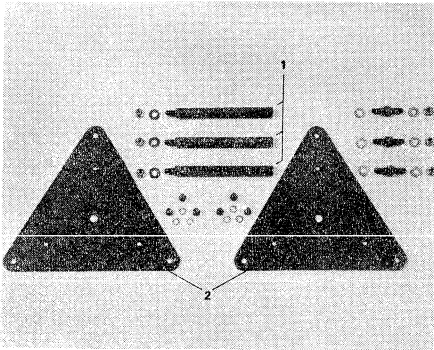
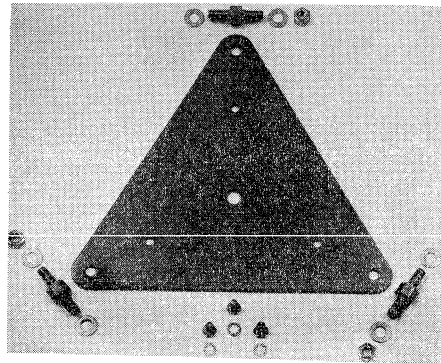
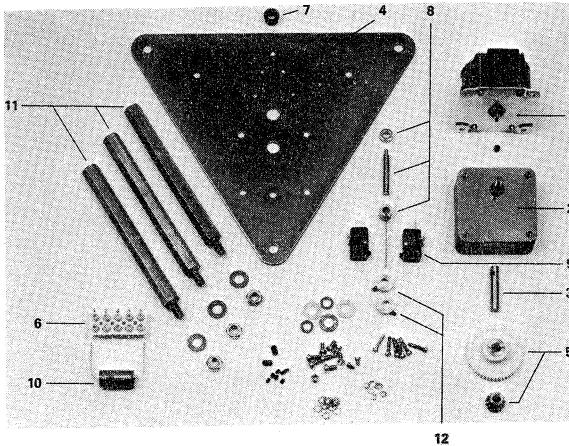

Fig. 29 Example of components of ganging unit;
Fig. 30 Example of components of base plate assembly.
Fig. 31 Example of components of motor drive kit;
A) For **mechanical ganging** order ganging unit (Fig. 29) and spindle; see columns 4 and 5 of the table.
B) For **motor drive of single transformers** order base plate assembly (Fig. 30) and motor drive kit (Fig. 31); see columns 6 and 7 of the table.
For **motor drive of ganged transformers** order ganging unit (Fig. 29), spindle, base plate assembly (Fig. 30), if required, and motor drive kit (Fig. 31); see columns 4, 5, 6 and 7 of the table.